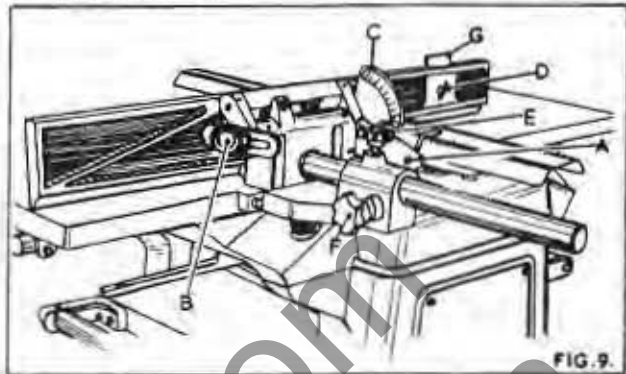
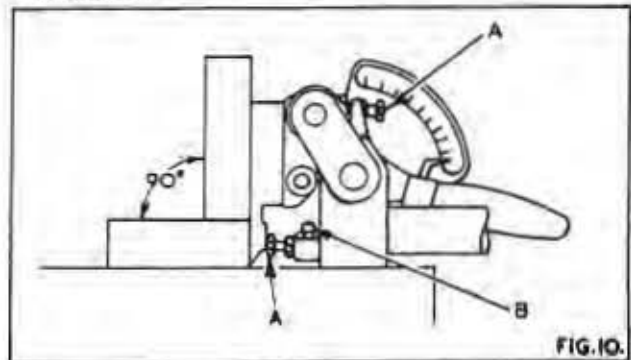

FIG. 9.
FIG. 10.
The fence cants by means of a lever "A" in Fig. 9. The angle is shown on the graduated scale "C".
1. Move the fence towards the rear of the table as shown in Fig. 10.
2. Check the 90° positive stops by means of a steel square as in Fig. 10. If adjustment is necessary adjust the hexagon head bolts "A" until fence is at right angles to the table when hard up against the stops and the handwheel "B" in Fig. 9 locked.
3. Check the 45° positive stop by means of an adjustable square. If adjustment is necessary adjust the socket head grub screw "B" in Fig. 10 until the fence is 45° to the table when hard up against the stop and the handwheel "B" in Fig. 9 locked.